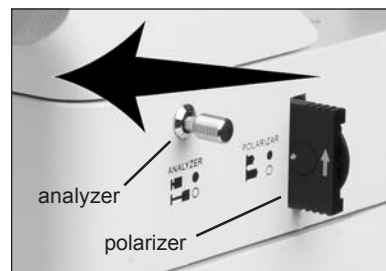

Figure 55
9. The analyzer knob, located on the right side of the reflected illuminator, must be pushed inward to engage this function (figure 55).